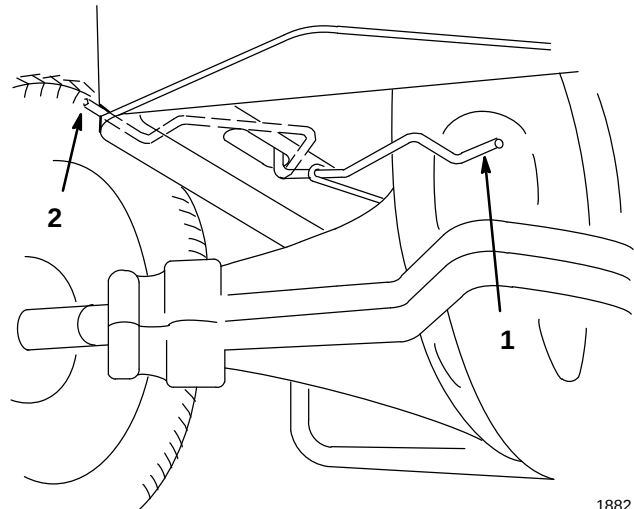

Figure 12
- Move the drive control to the “PUSH” position. This disengages the drive system and allows the wheels to turn freely (Fig. 12).
- Move the drive control to the “OPERATE” position. This engages the drive system (Fig. 12).